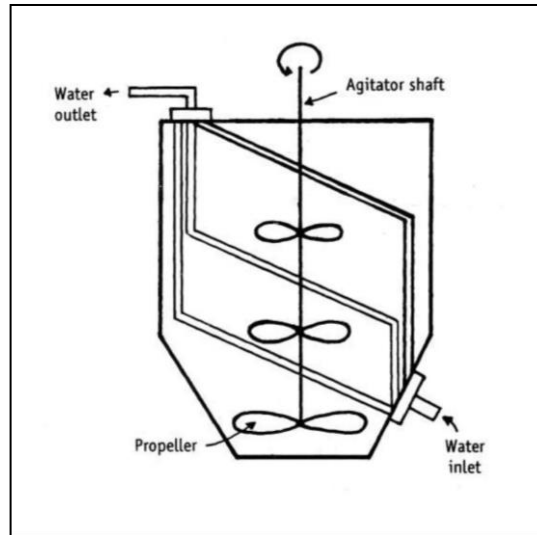

Figure 5. Construction of an agitated batch crystallizer
**Construction:** The construction of an agitated batch crystallizer is shown in figure 5. It consists of a cylindrical container with a conical bottom. A propeller is fixed centrally, which rotates on its own axis with the help of a motor. Pipes made up of good material for conducting heat are run from right bottom to left top of the crystallizer.